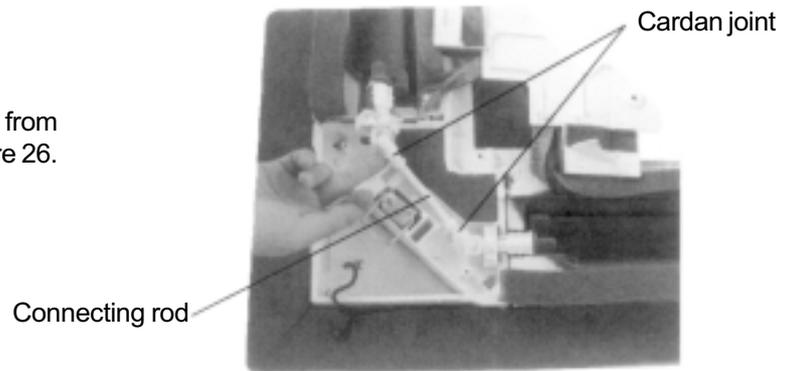

Figure 26
- ⑯ Disassemble the louver.
- Lift the connecting rod and pull it from the cardan joint as shown in figure 26.